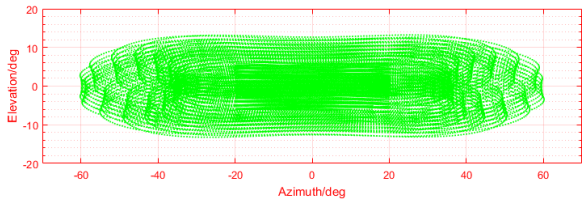

Figure 1.2.1 Point Cloud Allocation of the HAP (TX) within 0.1s (coordinates units: °)
Figure 1.2.1 displays the point cloud allocation of the HAP (TX) inside the FOV within 0.1s. In the center of the FOV, the scanning density is denser, with the average spacing of lines being 0.2° (most line spacing is from 0.1 to 0.3°), which is much denser than traditional 64-line LiDAR sensors. The two areas on both sides have a lower scanning density and average spacing lines of 0.3° (most line spacing is between 0.2 to 0.5°), rivaling traditional 64-line LiDAR sensors within 0.1 seconds.